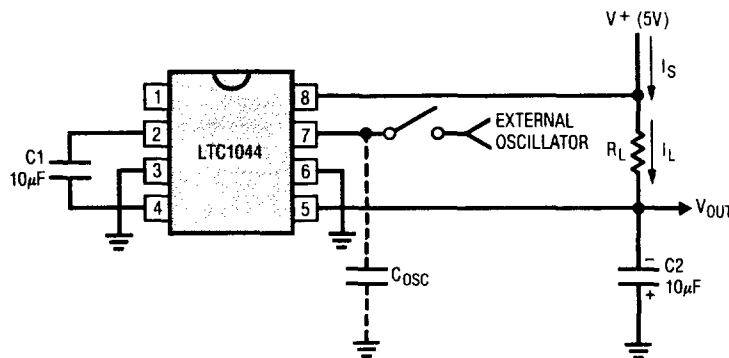

Figure 1
## ELECTRICAL CHARACTERISTICS $V^+ = 5V$ , $T_A = 25^\circ C$ , Test Circuit Figure 1, unless otherwise specified.
# TYPICAL PERFORMANCE CHARACTERISTICS (Using Test Circuit Shown in Figure 1)
**TYPICAL PERFORMANCE CHARACTERISTICS** (Using Test Circuit Shown in Figure 1)